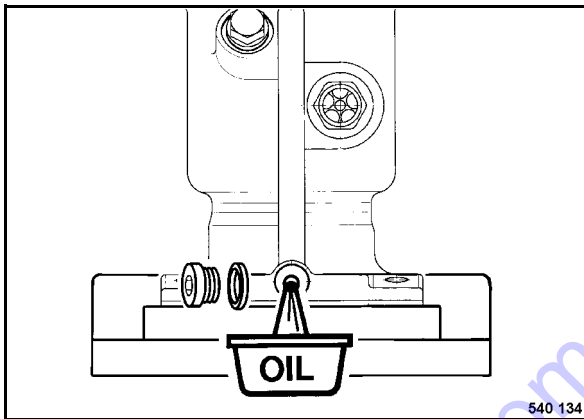

Fig. 68
- Clean and unscrew the oil drain plug (Fig. 68), let the old oil run out and catch it.